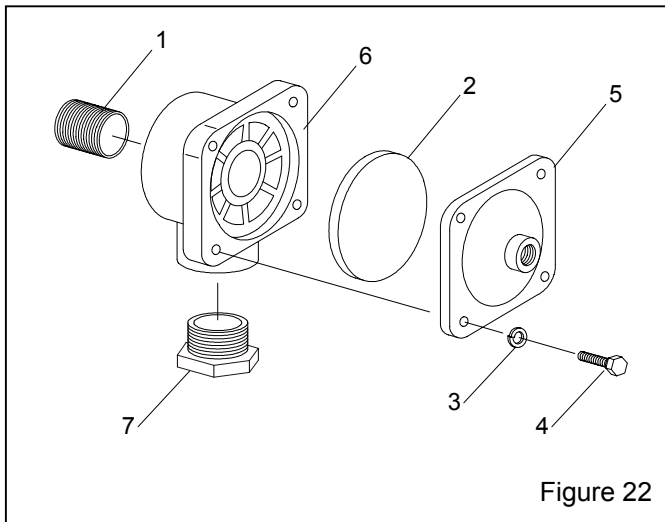

Figure 22
9.6 1" Diaphragm Outlet Valve, Figure 22